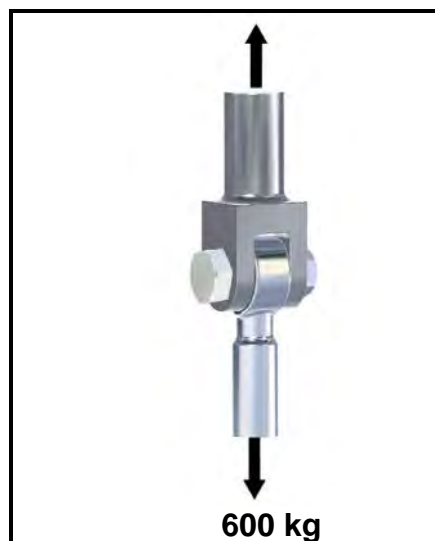

FIGURE 7.2
7.2 An M16 bolt is used in the link shown in FIGURE 7.2. A load of 600 kg is hanging from the link. Calculate the stress in the bolt material.